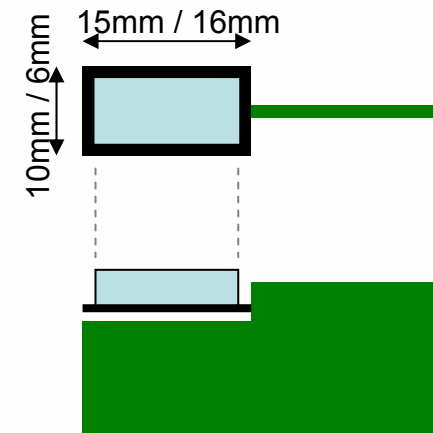

Fig.2
- **Probe-Fed LP Patch (Fig.2)**